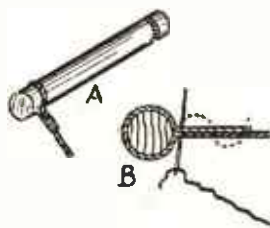

Fig. 4
A yard or two of really strong cord will be needed, blind cord will do nicely, preferably green colour. Cut into two pieces, and pass each through the handle attachments each side of the vase. The ends are then brought round the grooves in the hand grips, as at (A) in Fig. 4, and these tightly bound with, preferably, a coloured thread. The best and easiest method, also the strongest,